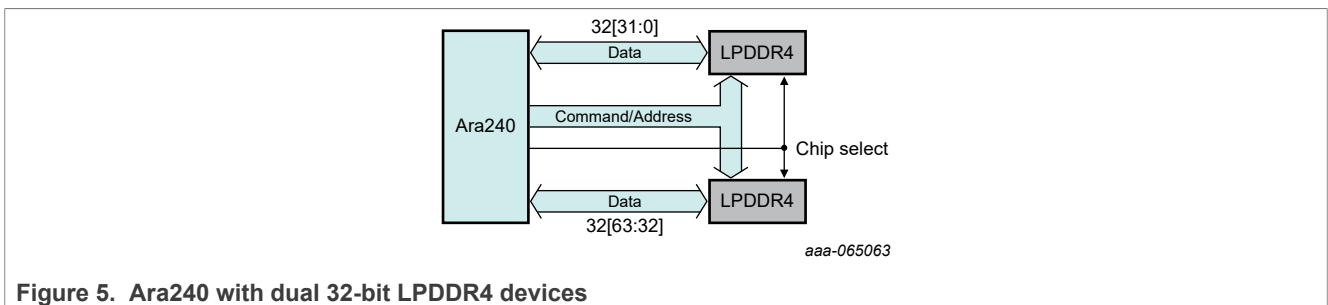

Figure 5. Ara240 with dual 32-bit LPDDR4 devices
- Two 32-bit LPDDR4 memories (Figure 5)